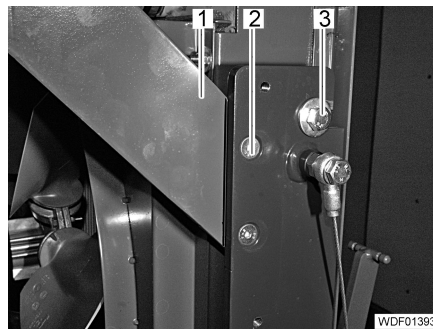

Fig. 130 Side attachment of the radiator
- Carefully tilt the radiator forwards until the screws (Fig. 130,3) slide into the guides on both sides of the radiator with 1 washer each.
- Attach the holder (Fig. 130,1) with expansion tank to the rear carriage.
- Screw in and tighten the 2 screws (Fig. 130,2).